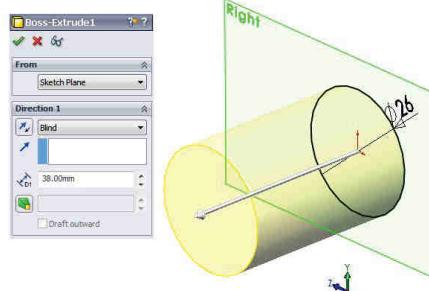

Fig. 2.3
**1** Trasare cerc  $\phi 26$ : Comanda Sketch – Fig. 2.3 – plan Right.
**2** Extrudare cerc  $\phi 26$ : comanda Extruded Boss/Base - Fig. 2.3 - Blind / 38 mm distanță / .
**1** Sketching of the  $\phi 26$  circle: The Sketch command – Fig. 2.3 – Right plane.
**2** Extrusion of the  $\phi 26$  circle: the Extruded Boss/Base command - Fig. 2.3 – Blind / 38 mm distance / .